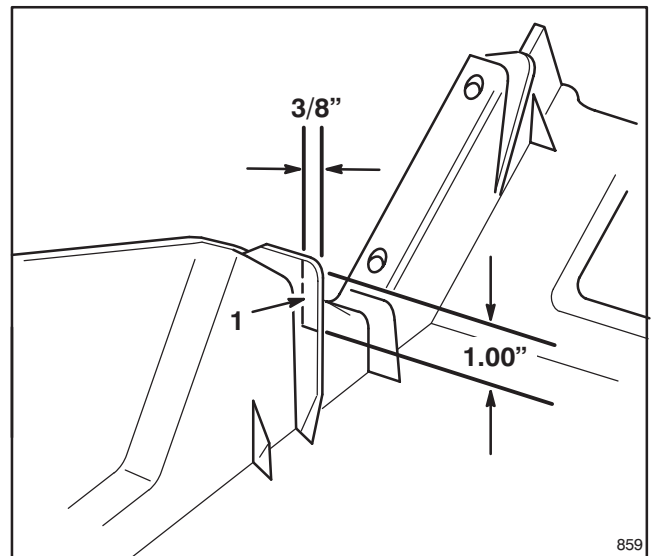

Figure 12
1. Switch assembly 2. Screw (3) 3. Upper shroud
16. Using a sharp knife, trim inside rib of shroud to height of 3/8" and length of 1.00" as shown in Figure 12.